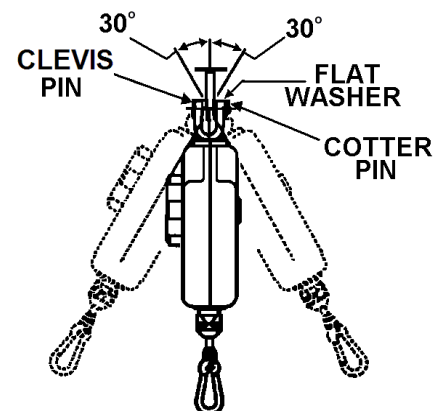

FIG. 02
- **NOTE:** Support must allow swivel fork to pivot 30° from vertical axis, perpendicular to clevis pin axis. Retractor must not be pulled sideways more than 30° or exceed free play between support and swivel fork – See **FIG. 02**